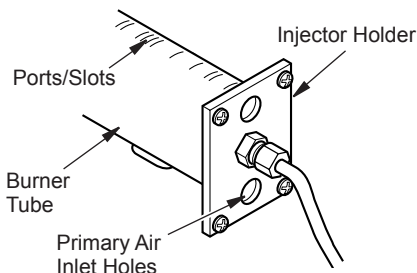

Figure 72 - Injector Holder On Outlet Burner Tube
2. Inspect burner, pilot and primary air inlet holes on injector holder for dust and dirt (see Figure 72).